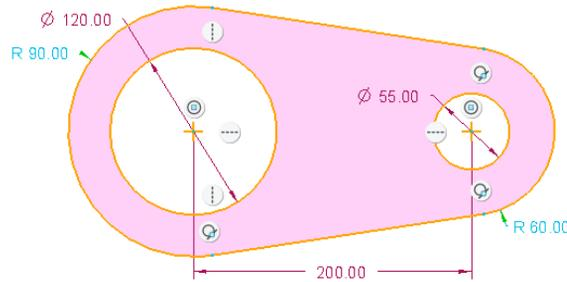

Figure 3-31 Sketch imported and placed in the current file
5. Choose the **Refit** button from the **Graphics** toolbar. The sketch, similar to the one shown in Figure 3-31, is displayed in the drawing area.